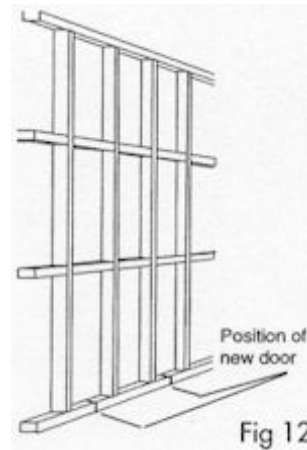

Fig 12
3. Mark this trim width measurement in the position of the new door on the bottom plate of the wall with a pencil and square. (See Fig 12)